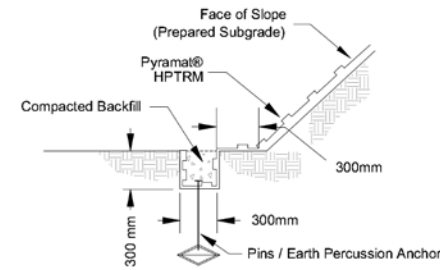

FIGURE 8: TERMINAL TRENCH AT TOE OF SLOPE DETAIL
- Excavate terminal trench 300mm wide x 300mm deep, minimum 300mm from the toe of the slope (see Figure 8).
- Pin, backfill and compact end of mat in terminal trench (see Figure 8). Terminal trench pinning devices should be spaced on 300mm centers and earth percussion anchors on 1.2m centers (see Figure 8).